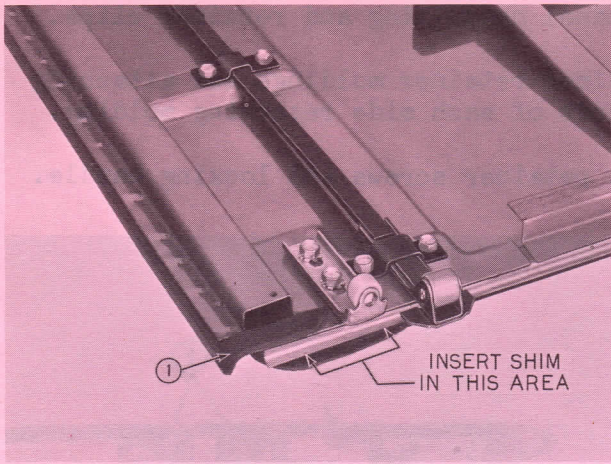

Fig. 3
12. Cement one each of a fabricated shim (1/2" x 2-1/2" x 1/8" may be fabricated from regular shim stock obtainable from local parts stock) into the weatherseal groove at the front ends of the sliding roof panel in the area indicated in Figure 3. Then cement one each of these shim strips (1, Fig. 3) on the lower side of the panel directly below and slightly forward of the shim installed in each weatherstrip groove. This shim will provide an extension and cause normal leakage to fall into the track.